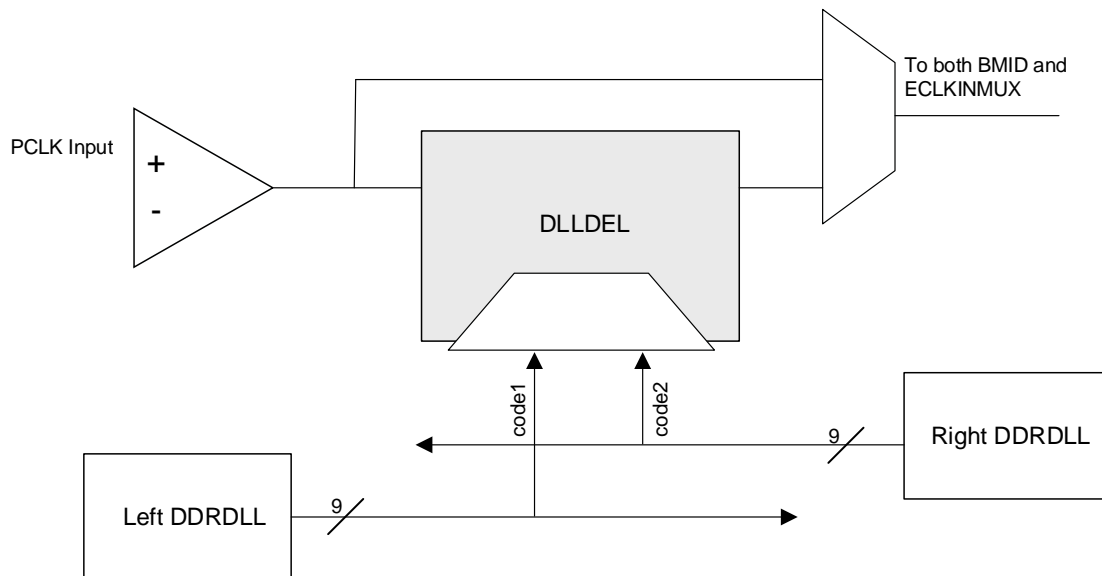

Figure 2.11. DLLDEL Functional Diagram
- The value is also sent to another slave DLL, DLLDEL, which takes a primary clock input and generates a 90-degree shifted clock output to drive the clocking structure. This is useful in an edge-aligned Generic DDR interface, where 90-degree clocking needs to be created. Not all primary clock inputs have associated DLLDEL control. Figure 2.11 shows DDRDLL connectivity to a DLLDEL block (connectivity to DQSBUF blocks is similar).